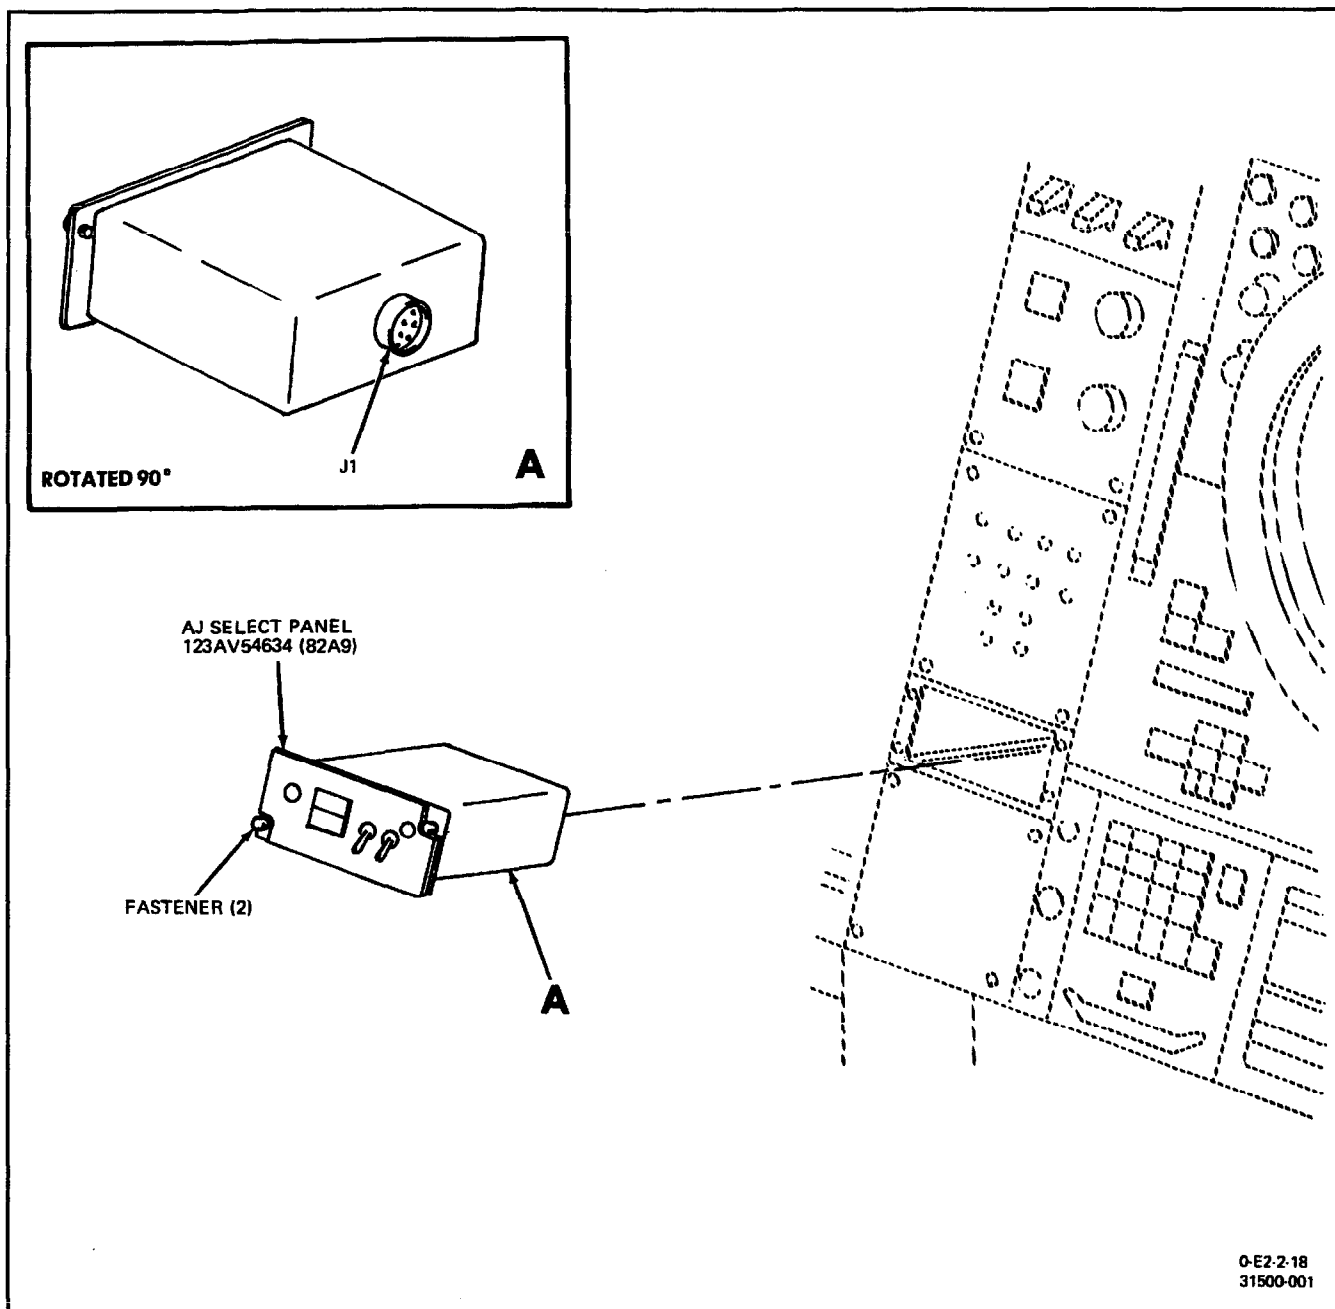

Figure 1. Removal and Installation of AJ SELECT Panel
**3. REMOVAL.** (Figure 1.)
**4. INSTALLATION.** (Figure 1.)